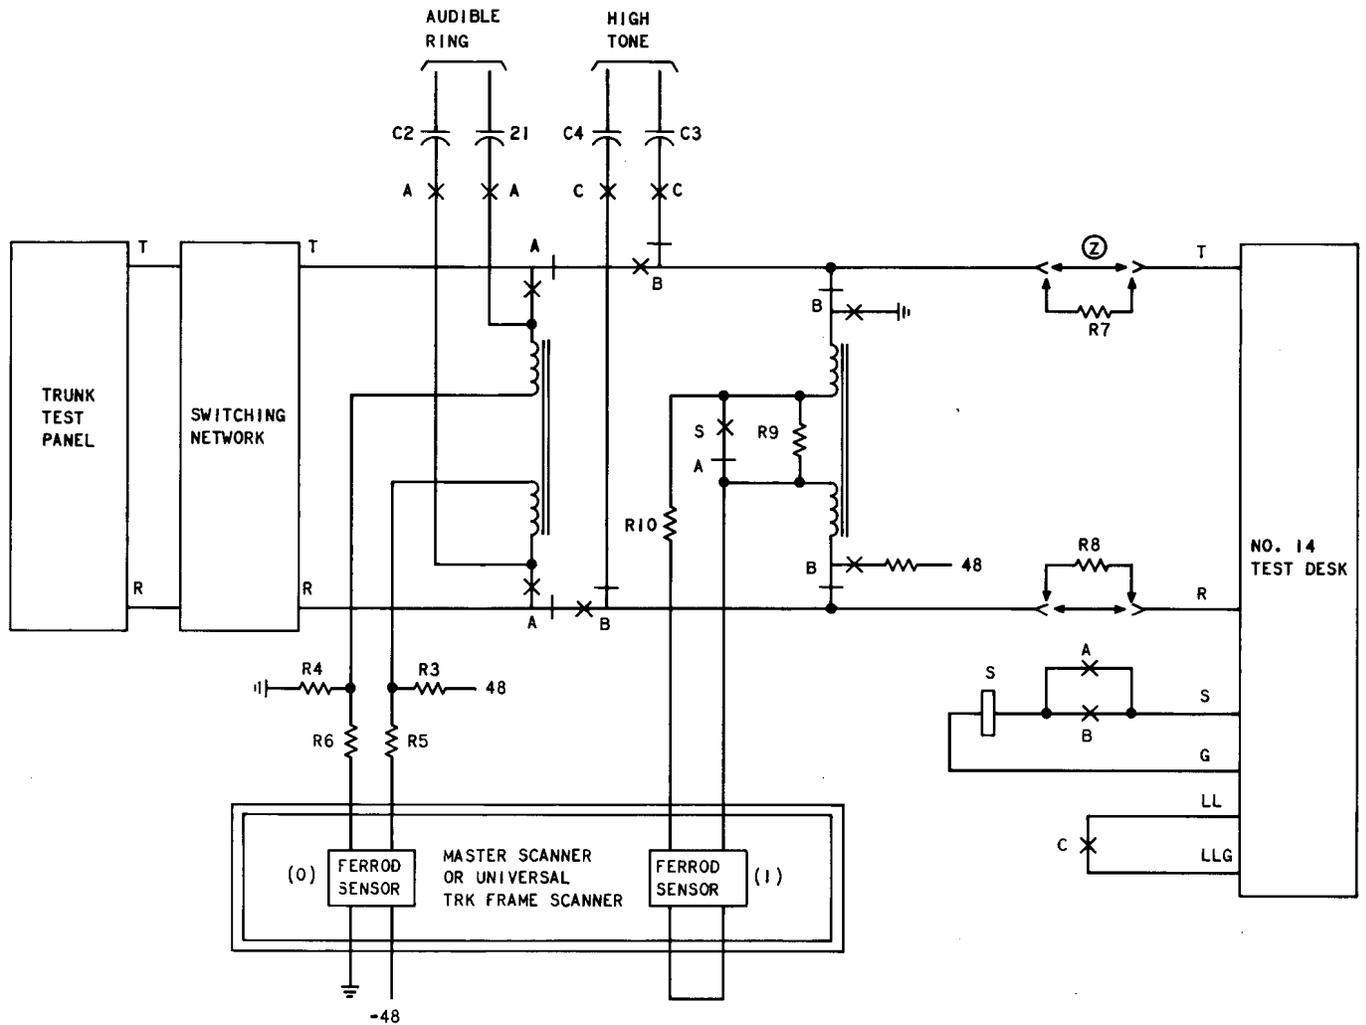

Fig. 1—Outgoing Trunk Circuit Local Test Desk No. 14
3.04 The following is a step-by-step procedure to make the outgoing trunk circuit traffic busy and connect it to the TTP (Fig. 1).